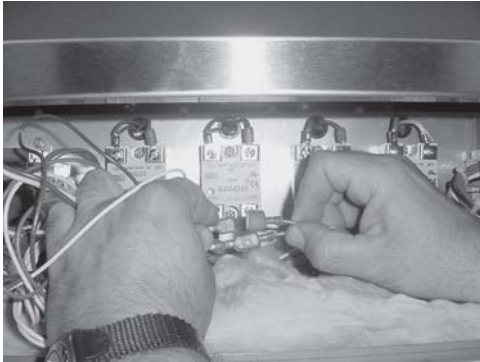

Figure 3-13
3. Unplug the wires to the probe. Figure 3-13.